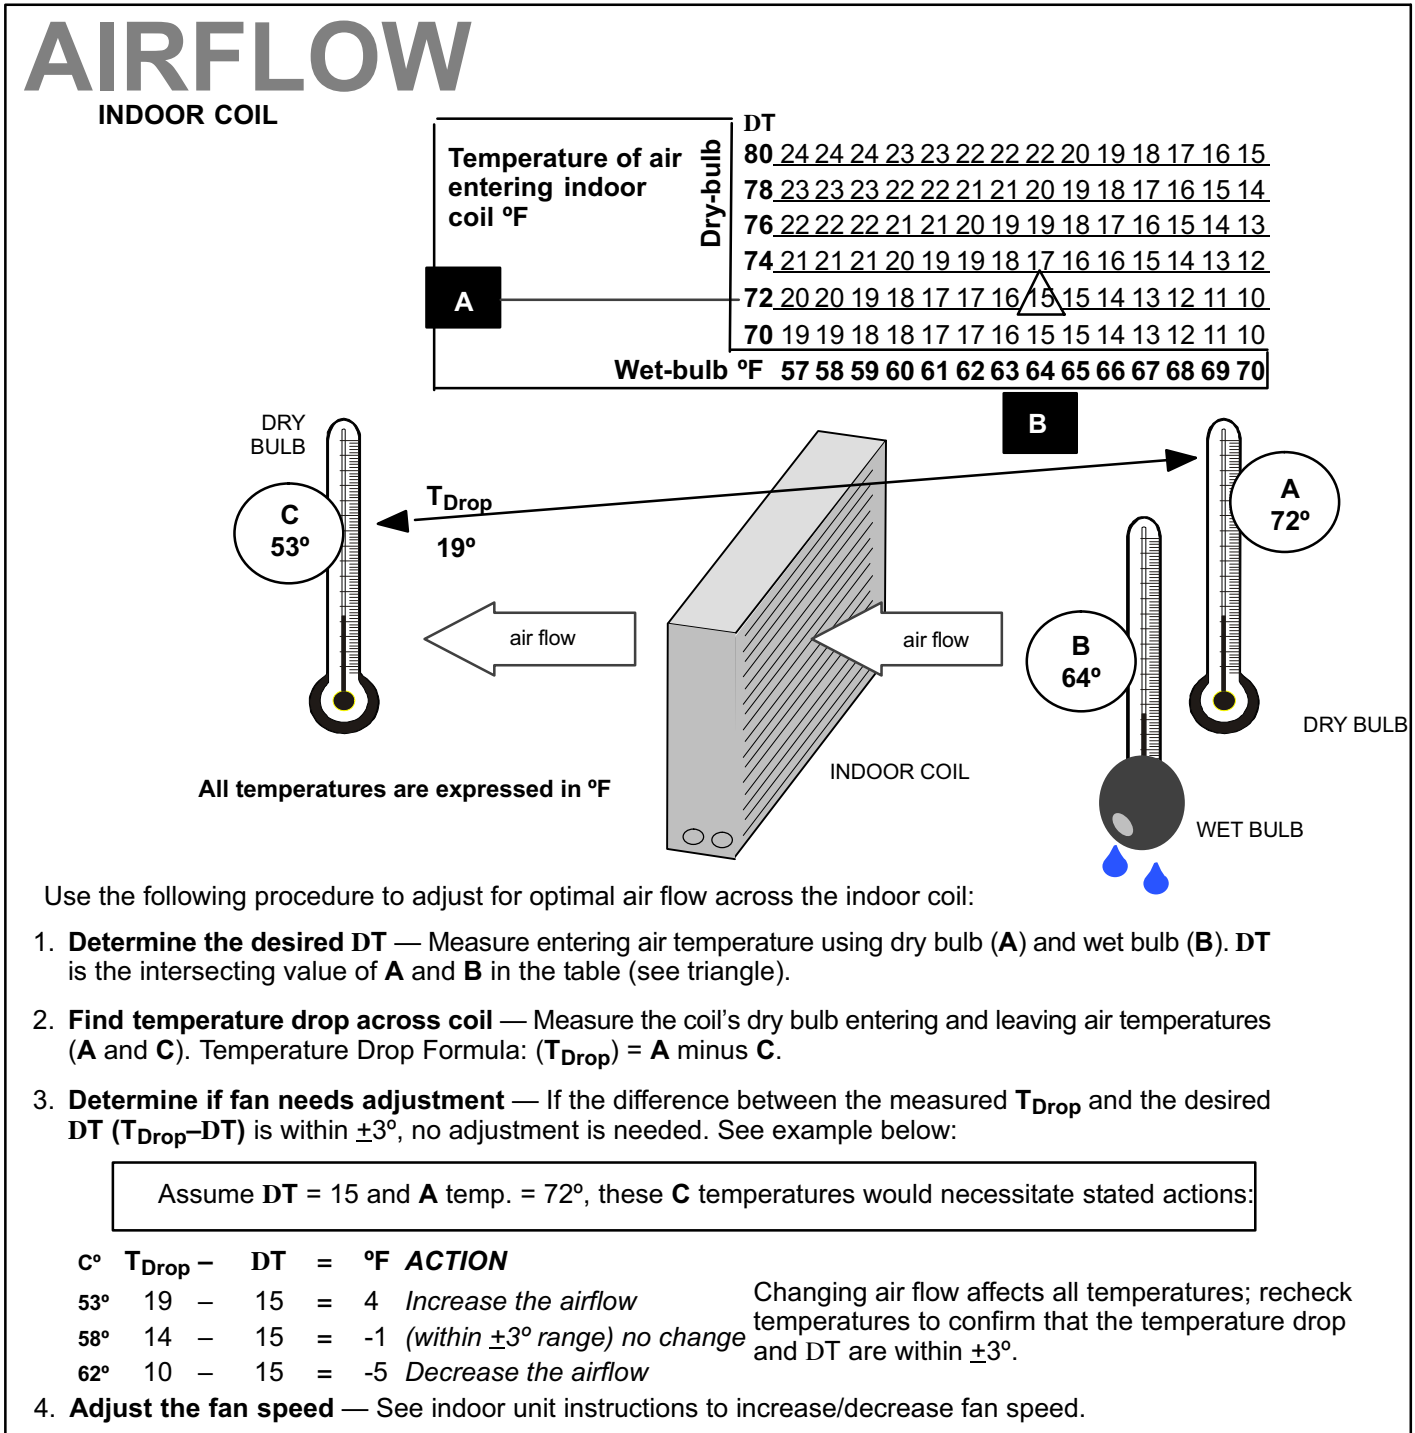

Figure 16. Checking Indoor Airflow over Evaporator Coil using Delta-T Chart
This system uses HFC-410A refrigerant which operates at much higher pressures than HCFC-22. The pre-installed liquid line filter drier is approved for use with HFC-410A only. Do not replace it with components designed for use with HCFC-22. This unit is NOT approved for use with coils which use capillary tubes or fixed orifices as a refrigerant metering device. Check airflow using the Delta-T (DT) process using the illustration in figure 16.
- Check the airflow as illustrated in figure 16 to be sure the indoor airflow is as required. (Make any air flow adjustments before continuing with the following procedure.)